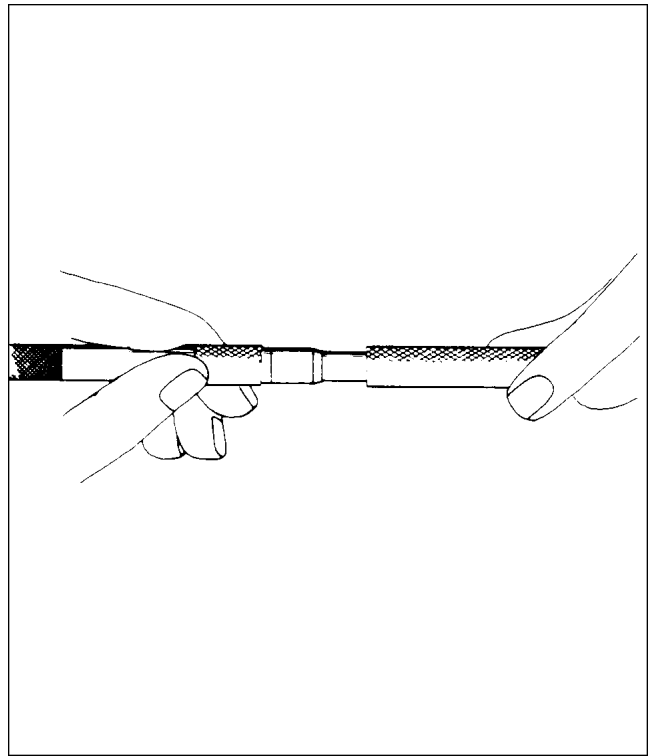

Figure 74-16. Inserting Stripping Tool
- d. Make sure stripping tool is inserted past cutting mark, and cut shielding with a sharp knife using a rolling motion. Remove shielding and stripping tool. Do not cut silicone insulation. Refer to Figure 74-16.